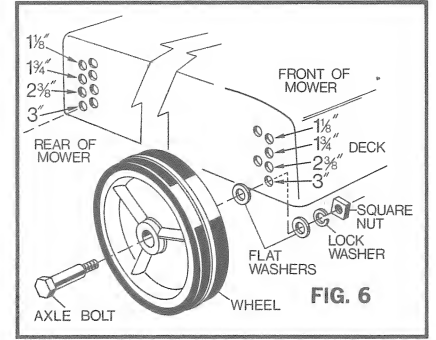

FIG. 6
1. Select the cutting height you will want to use on your lawn and note which mounting holes (Fig. 6) will give you this height.